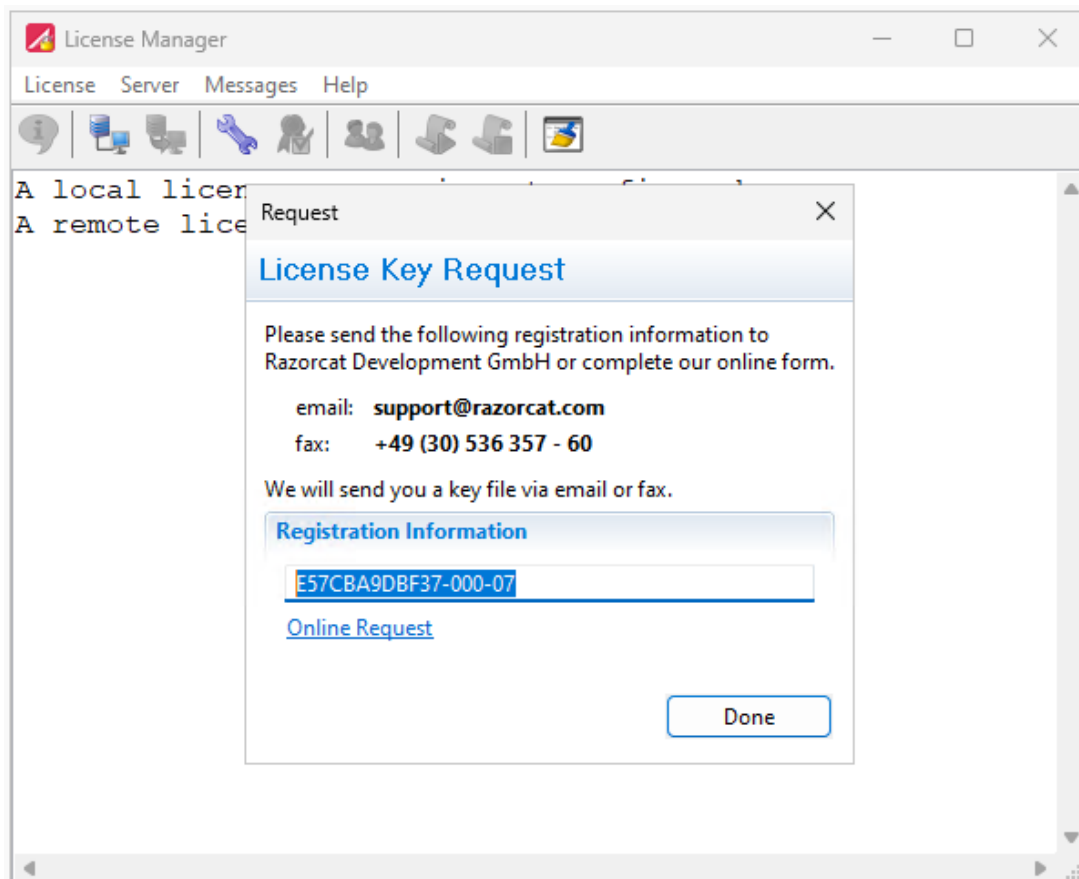

Figure 1.9: License key request popup window
If a valid license is found, TESSY will start. If there is no valid license, the License Manager will start with a License Key Request popup window (see figure 1.9).
The License Key Request popup window will appear (see figure 1.9).
- In the opening popup window click on “Done.” (see figure 1.9)